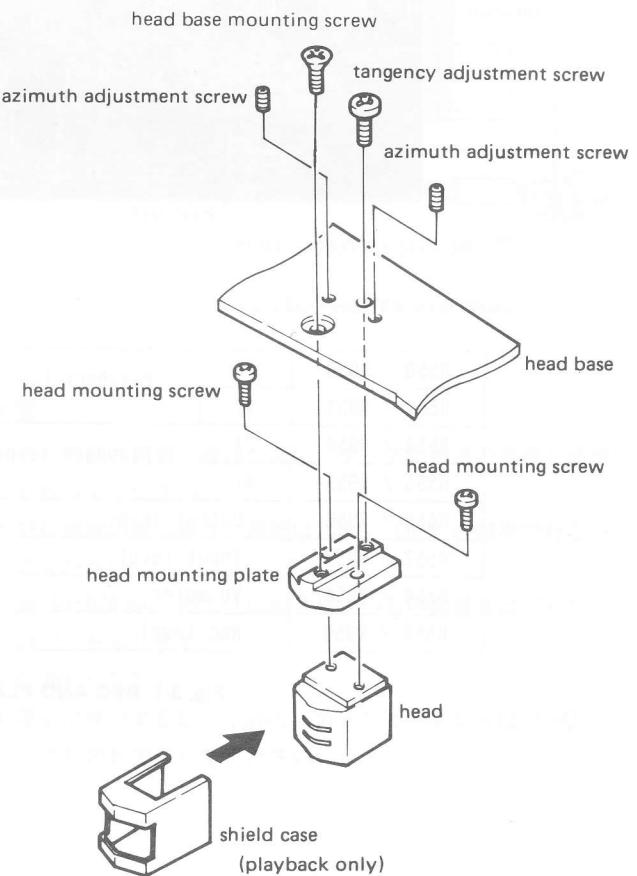

Fig. 2-23 Head mounting
1. Refer to Fig. 2-23.
1. Fig.2-23参照